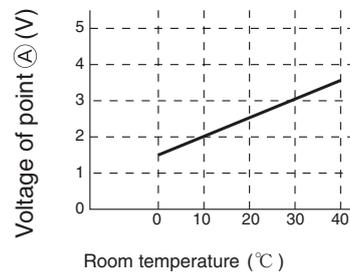

Fig. 8-2
According to room temperature, the voltage of point (A) becomes as it is shown in Fig.8-2.